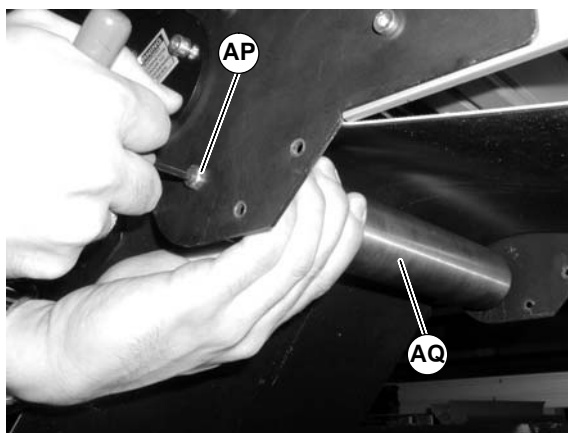

Figure 19
4. Push in hex posts (AP of Figure 19) and remove roller (AQ).